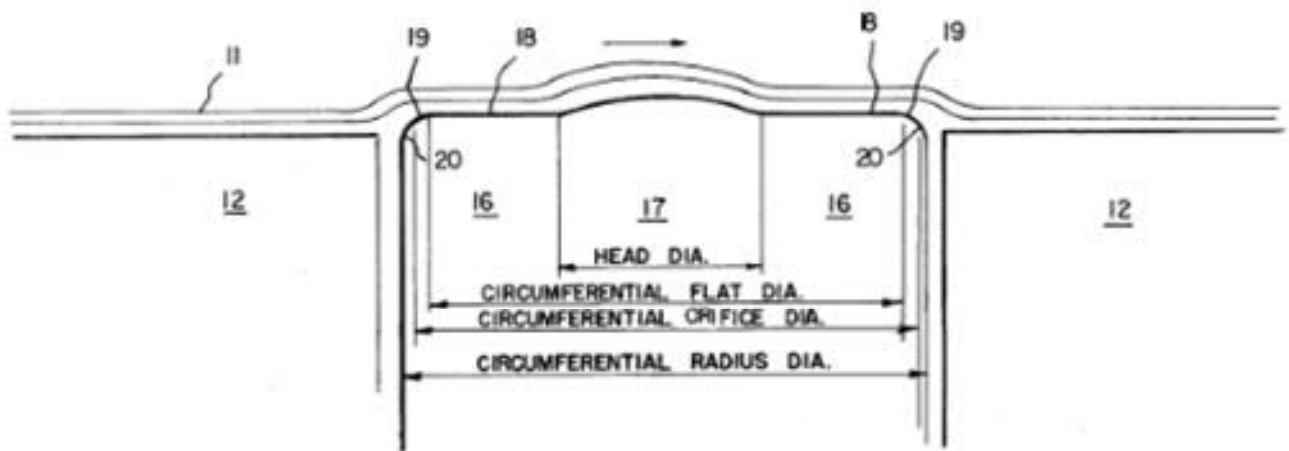

Figure 1: Schematics of the head-disk interface of the Iomega Bernoulli box (from ref [A2])
Iomega's Bernoulli technology relies on the Bernoulli effect, illustrated in Figure 1 where a flexible disk (11) spins in close proximity to a stationary plate (12). As the thin layer of air between the spinning disk and the plate is ejected towards the outer diameter by centrifugal action, the pressure drops, pulling the disk towards the plate, and rigidifying it. This stabilizing effect allows for greater rotational speed, with the Bernoulli 8" disks spinning at 1500 RPM, vs 300 RPM for the conventional floppy drive. This technology had been investigated earlier by IBM [A1], but was abandoned. Iomega perfected the technology, including the integration of head technology (18) that provided stable spacing, using simple positive pressure air-bearing [A2].